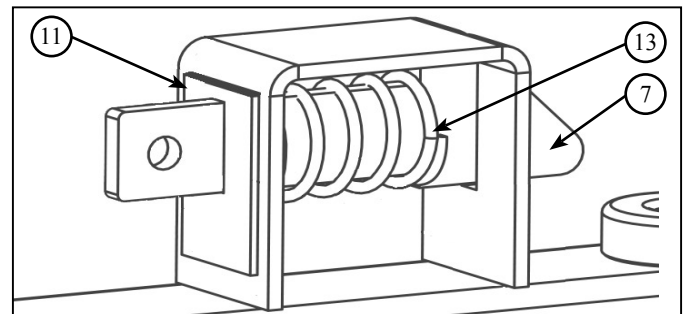

Figure 3.9 - Bed Latch Spring
6. Position spring (13) inside the bed latch bracket, and insert latch (7) through the back-side of the slot, spring, and the front-side slot. *Refer to Figure 3.9*
7. Slide guard plate (11) onto latch. *Refer to Figure 3.9*